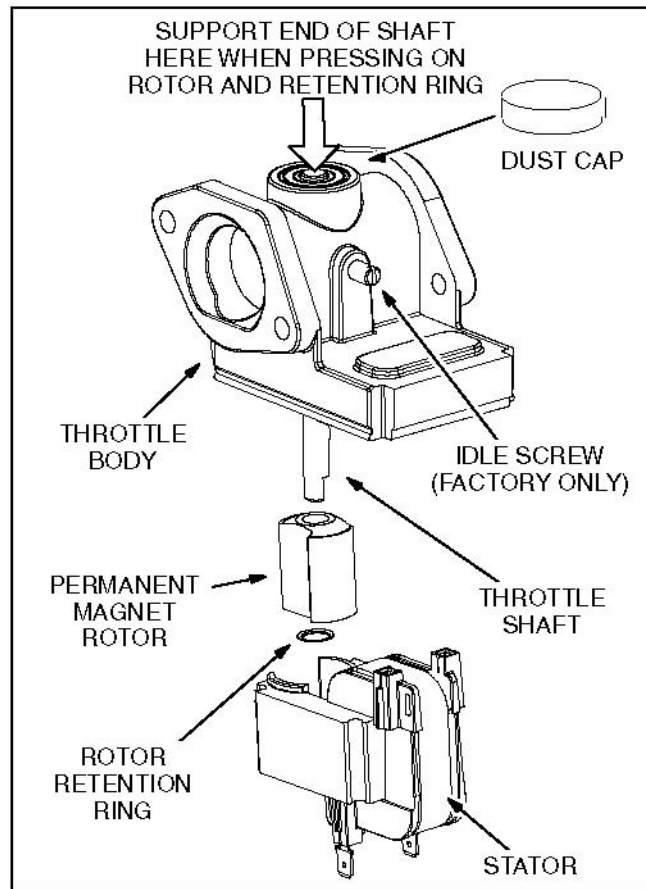

FIGURE 45. ACTUATOR ROTOR AND STATOR
Do not attempt to re-adjust the idle screw (Figure 45), which was set and sealed at the factory.
1. Replace the throttle body if there is any looseness, play, or binding in the throttle shaft, or if the factory seal on the idle screw has been broken. When pressing the rotor and retention ring onto the shaft of the throttle body, support the end of the shaft as shown (Figure 45) to avoid damage to the bearings and throttle plate.